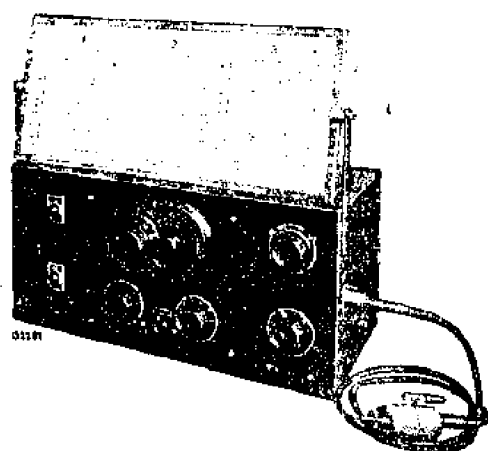

Fig. 1.
1. Service oscillator, type 2880F (see Fig. 1).